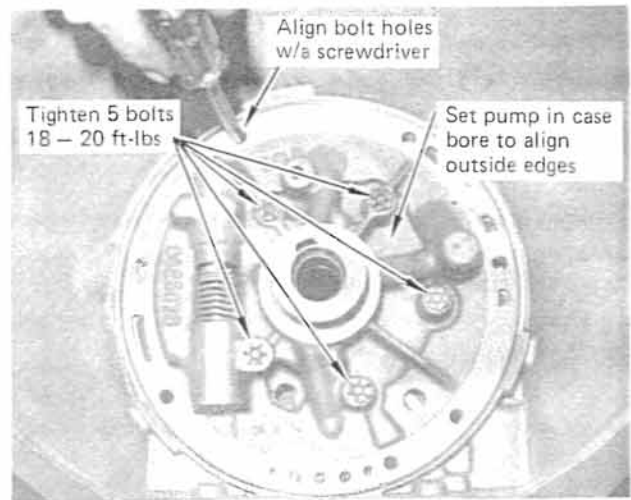

FIGURE 38
**STEP 9.** Position the pump cover over the pump body. Align the outer bolt holes and hold the pump halves together while installing the five pump bolts finger tight. The outer edges of the pump must be aligned properly. This can be done by setting the pump into the transmission case, face down, and aligning the outer bolt holes with a screwdriver. (See Fig. 38) Do not install an O-ring on the outside diameter of the pump during this operation. Tighten pump bolts 18 to 20-ft lbs. Remove the pump from the case and set carefully over the neck of the torque converter. Rotate the entire pump assembly on the converter. It should rotate freely with a slight even resistance. Any bind or tightness indicates dirt, burrs or warpage interfering with the rotors. The pump will have to be disassembled and the problem corrected. **An incorrectly assembled pump will fail immediately!**